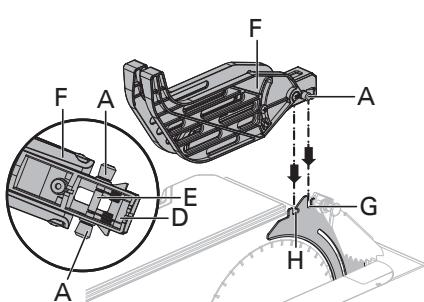

Fig. 9b
- Hold and push knobs (A) forward to the front of the the blade guard. Place the pins (D, E) on the blade guard (F) into the slots (G, H) indicated on the riving knife. (Fig. 9b)